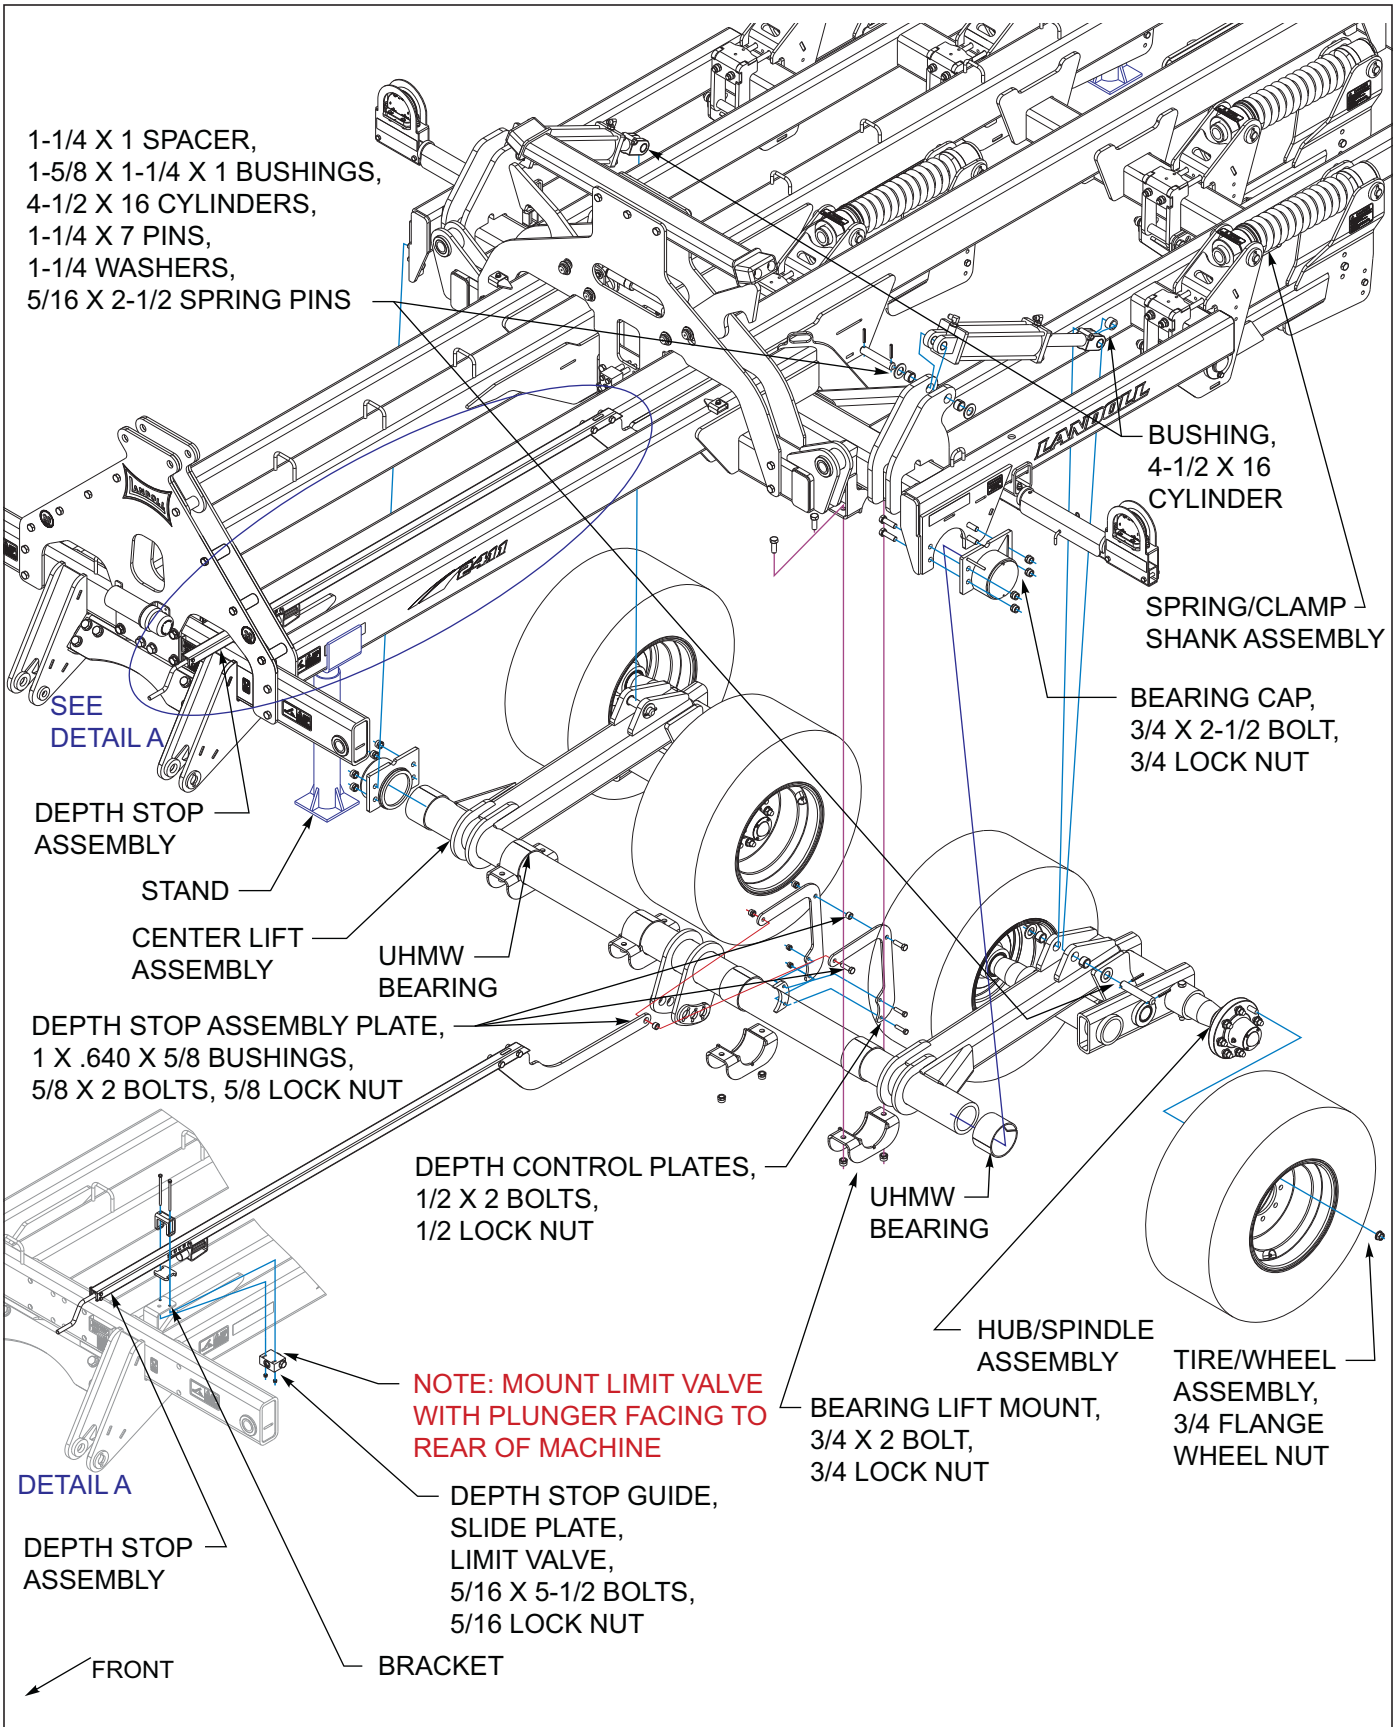

Figure 3-6: Center Frame Lift Assembly 2411AFG-07-09 After 08/01/2022
- Install a UHMW bearing between all 4 inner bearing locators around the center lift assembly *See Figure 3-6*.
Be sure the 4, 1-5/8 x 1-1/4 x 1 bushings are installed in the lift plate mounts and center lift assembly mount plates *See Figures 3-6*.